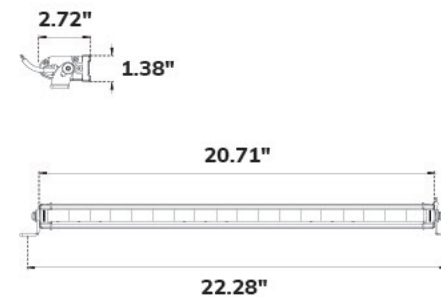
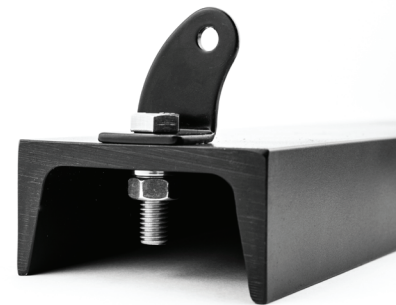

Fig. 2
Fig. 3
- 2 Reference (Fig.2) below for mounting hole spacing requirements, based on your desired mounting bracket orientation. Loosely attach the universal mounting brackets at your desired location, using the (2) SS M8x30mm hex head bolts, lock washers, & M8 nuts on a flat surface. (Fig. 3)